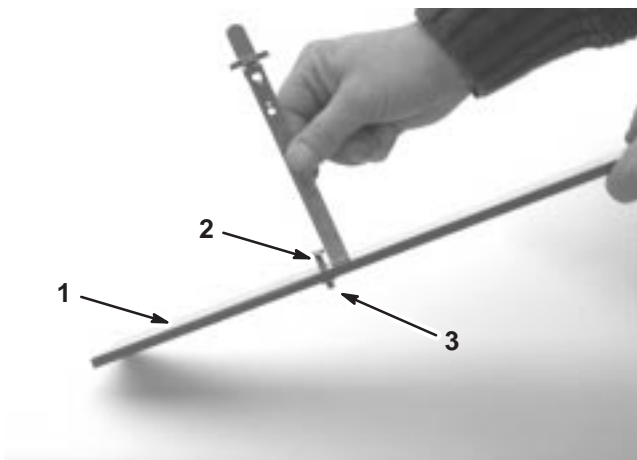

Figure 15
3. Loosen the nut on the gauge bar (Fig. 15) and set the adjusting screw to the desired height-of-cut. The distance between the bottom of the screw head and the face of the bar is the height-of-cut.